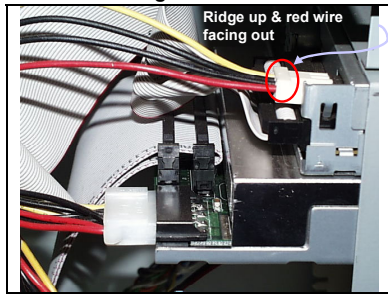

FIGURE IX.7
- **Power cables** to the Hard Drive and PCMCIA dual card holder are the same type. They are both 4 wires with a white plastic connector about 1 inch wide with grab tabs on the side. Note that they both have angles cut in 2 corners and can only be installed one way. You may also mark each one on the top with a dry erase marker. The Floppy drive has a smaller mini power connector it is about ½ inch wide, review the way it is installed and you will notice that the red cable on this connector is closest to the outside of the computer. You will need to mark the top of this connector to make sure that you reinstall it correctly. (see Figure IX.7)